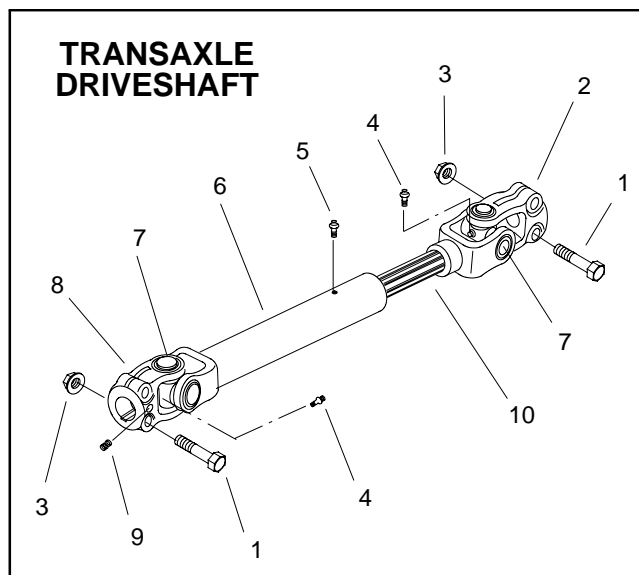

Figure 26
A. For transaxle driveshaft (Fig. 26) removal, see Pump Drive Gearbox Removal in this section.